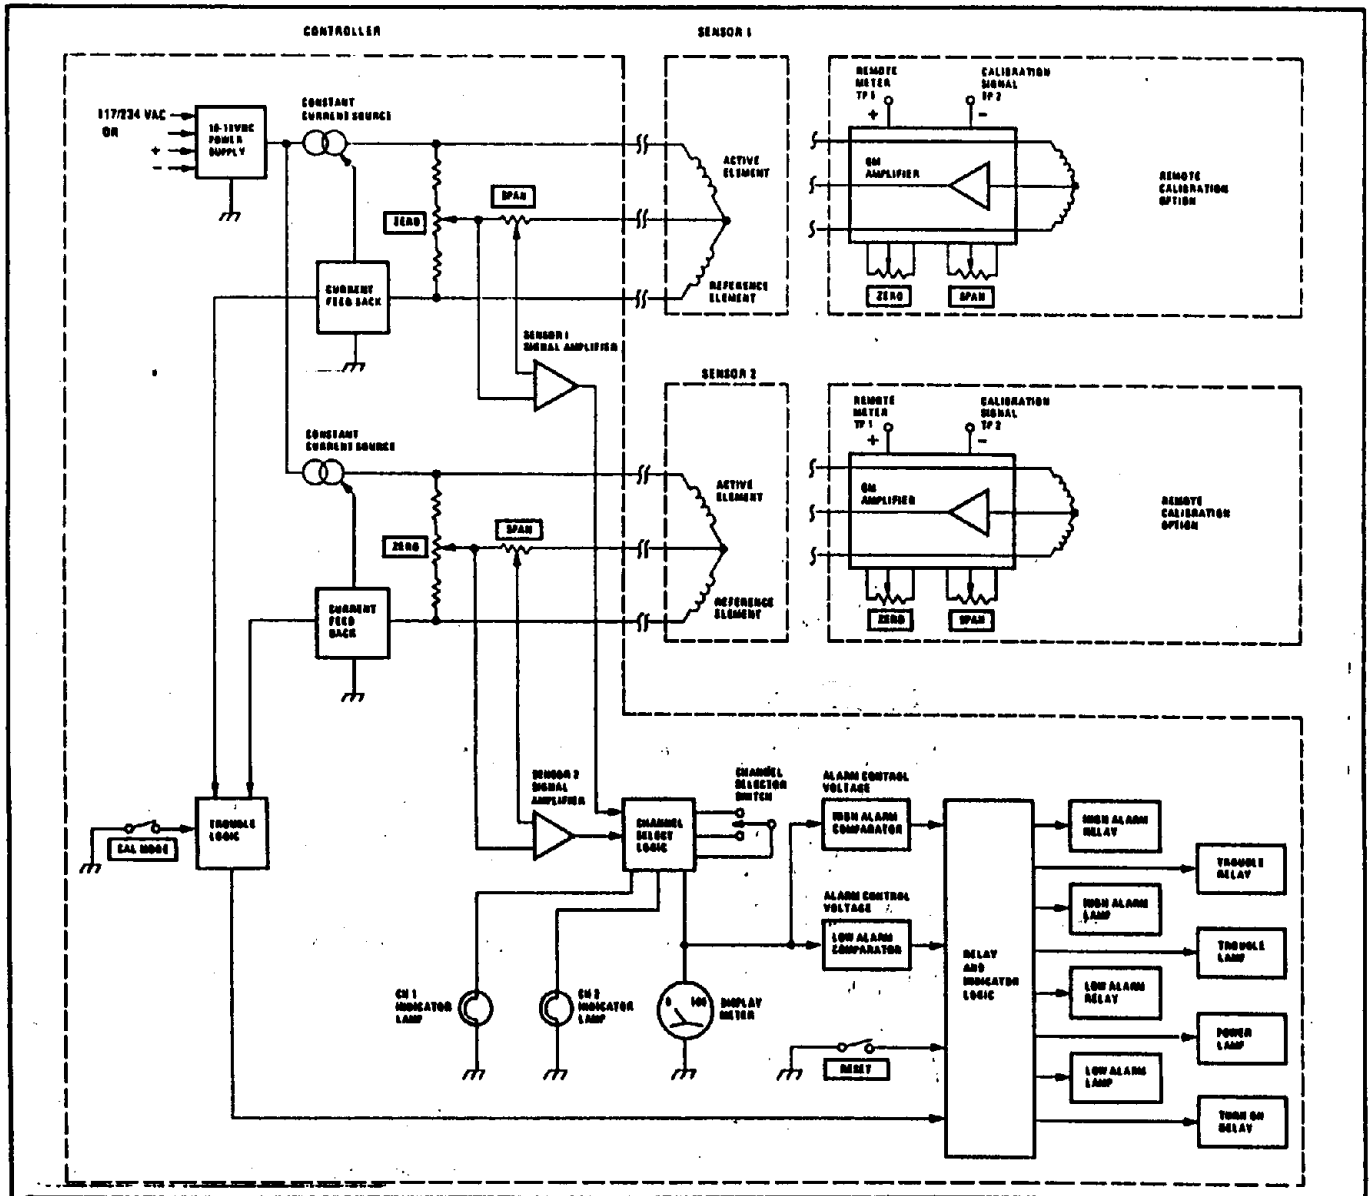

Figure 4-1. Model 820 Gas Detection System Block Diagram
The following discussion explains the operation of the 820 Controller and refers to the block diagram shown in Figure 4-1.
* Not shown in the block diagram in Figure 4-1.
teristics. When no gas is present, the zero offset voltage varies slightly from sensor to sensor. When the sensors are exposed to a specific concentration of gas, the signal voltage varies somewhat from sensor to sensor. The *Zero* and *Span* potentiometers (Figure 4-1) are used to compensate for the variables in the sensors. The sensor is connected to the controller with either copper or aluminum wire, the resistance of which varies with changes in ambient temperature. As a result, there will be some common mode voltage change with temperature. The output from the sensor amplifiers is referenced to controller ground.